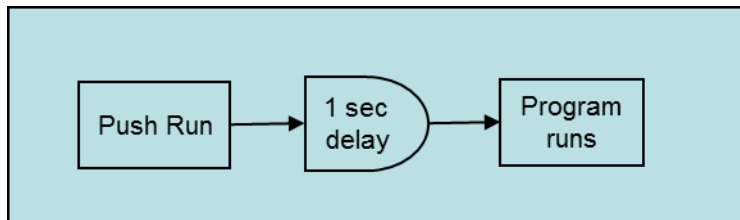

Figure 1 - Start Program Requirements
- a. Robots must have a built in delay of at least one (1) second between pushing the run button and the robot commencing operation, (see Figure 1). All times are measured from the time the robot crosses the start line (or leaves the start box). This one second time must be used by team members to remove all hands from the vicinity of the robot.